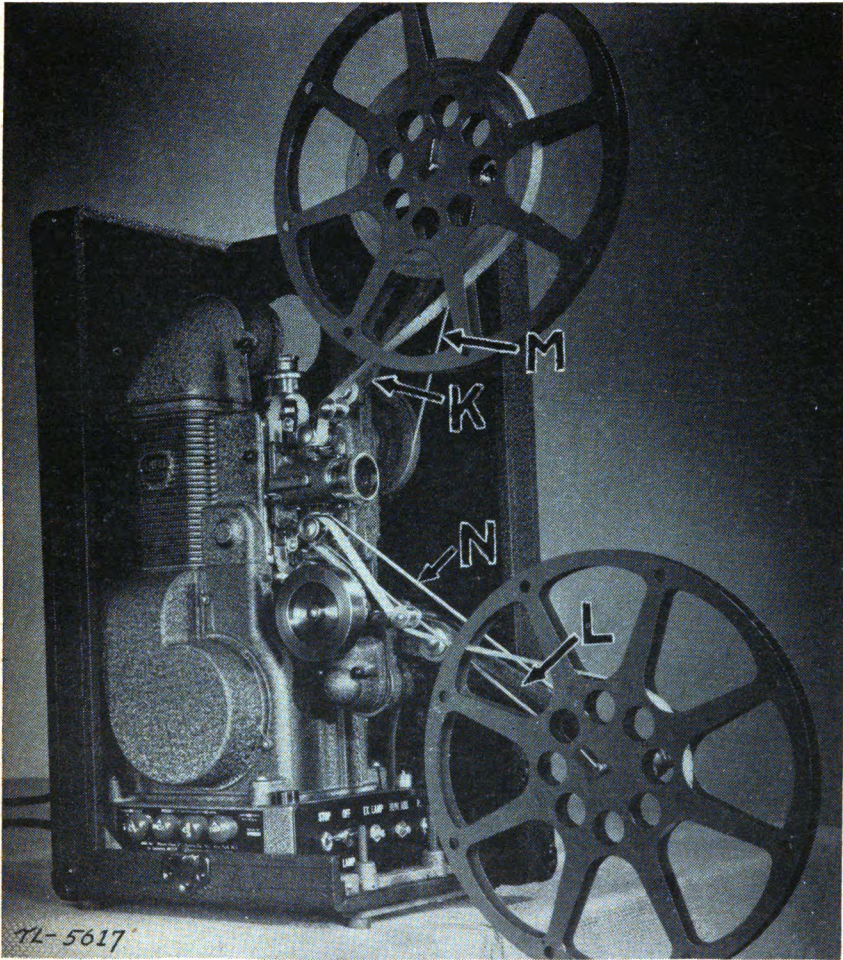

FIGURE 6.—Phonofilm projector ready for operation.
(2) *Phonofilm* (fig. 6).—The Phonofilm projector is prepared for operation in the same manner as the Ampro YA, except that it is not removed from its case.